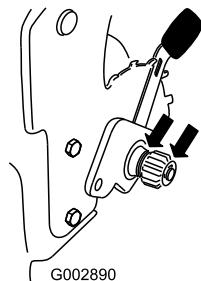

Figure 50
2. Apply a lubricating oil to the inner and outer sides of the gear as shown in Figure 50.